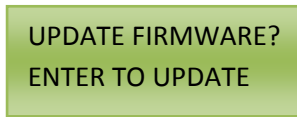

Figure 19.2
- a. This Action allows the firmware to be updated on the unit. If there is an update, Touch-Plate® can send it on an SD card or through email. The SD card then goes into the Time-Keeper® and this Action is referred to. Make sure to press the ENTER to save the information. See figure 19.2 for an example.